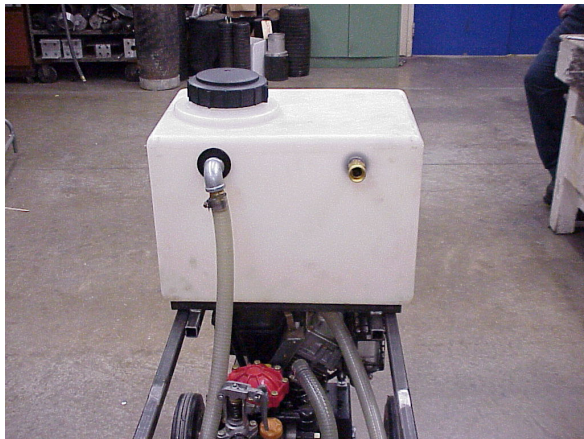

Figure 3
3. Set tank assembly on top of new frame as shown (Figure 3). Make sure the hoses are inside the frame.